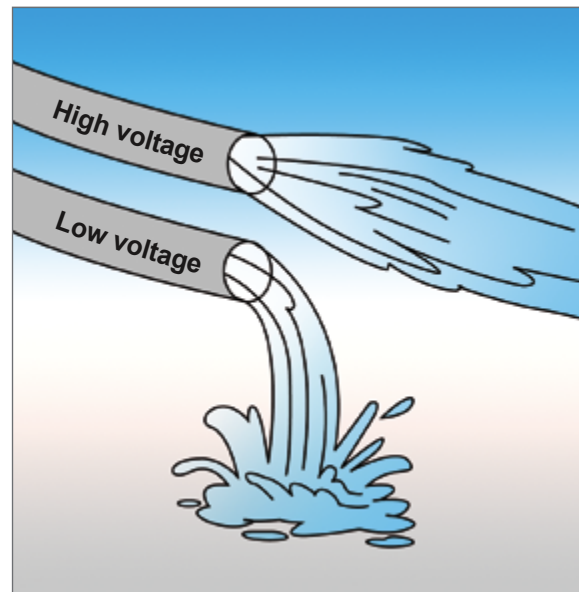

Figure 2: High and low voltages are like high and low pressure water pipes. Both high and low voltages can kill. “The higher the volts, the higher the jolts.”
Voltage measure is in *volts* (V) or thousands of *volts* (kV). Even a 230V domestic electricity supply *voltage* can kill in the right circumstances, but “high *voltages*”, 1000 *volts* (1kV) or more, are particularly dangerous. (See Figure 2).